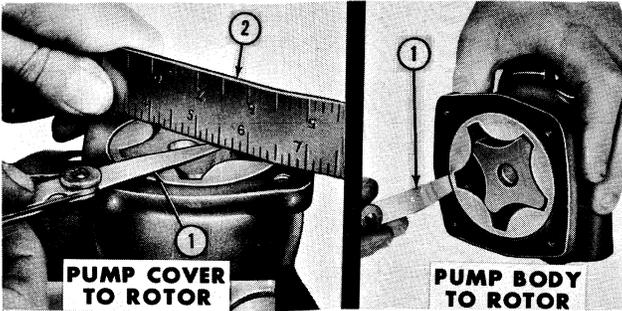

Figure 32
4. With the rotor and shaft assembly installed in the pump body, place a straight edge over the rotor and shaft assembly and the pump body. Measure the clearance between the straight edge and the inner rotor and shaft assembly and between the straight edge and the outer rotor, Figure 32. If the measurement is not within specifications, see page 67, install a new rotor assembly.